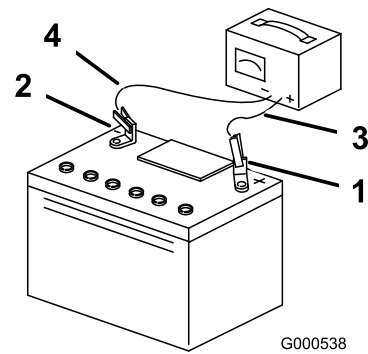

Figure 44
5. When the battery is fully charged, unplug the charger from the electrical outlet, then disconnect the charger leads from the battery posts (Figure 44).